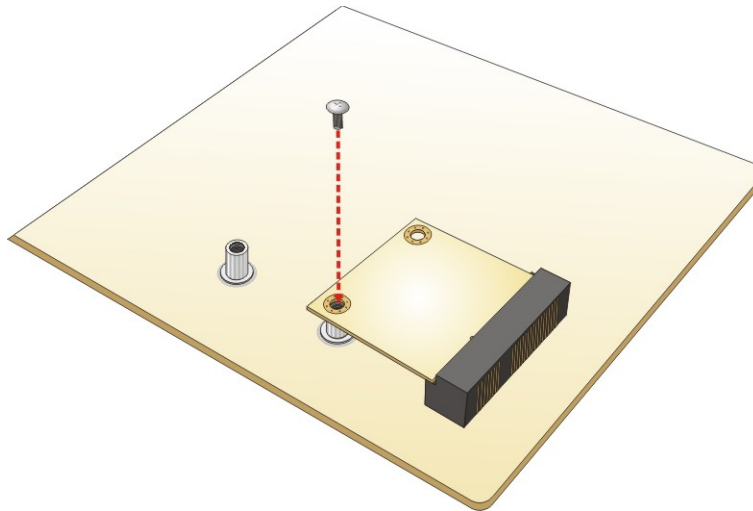

Figure 3-17: Securing the Half-size PCIe Mini Card
Step 3: Secure the half-size PCIe Mini card with the retention screw previously removed (Figure 3-17).